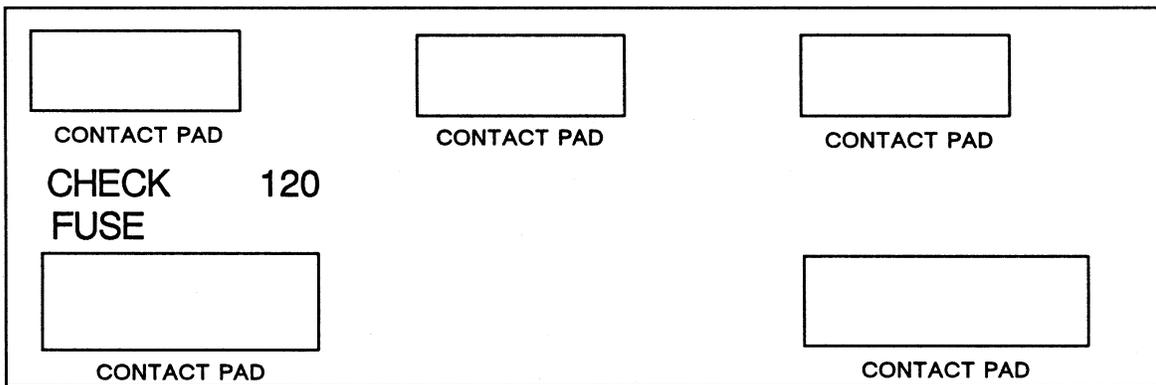

Figure 2-4. Model 30M 120 VAC Voltage Selection through PCB
4. Insert a pointed instrument, such as a Phillips screwdriver, in the extraction hole on the board, and pull out the voltage select PCB. See Figure 2-4.
1. For 120 VAC operation slide the PCB into the fuse case so that the legend CHECK FUSE 120 is on the left side and right-side up. See Figure 2-4.